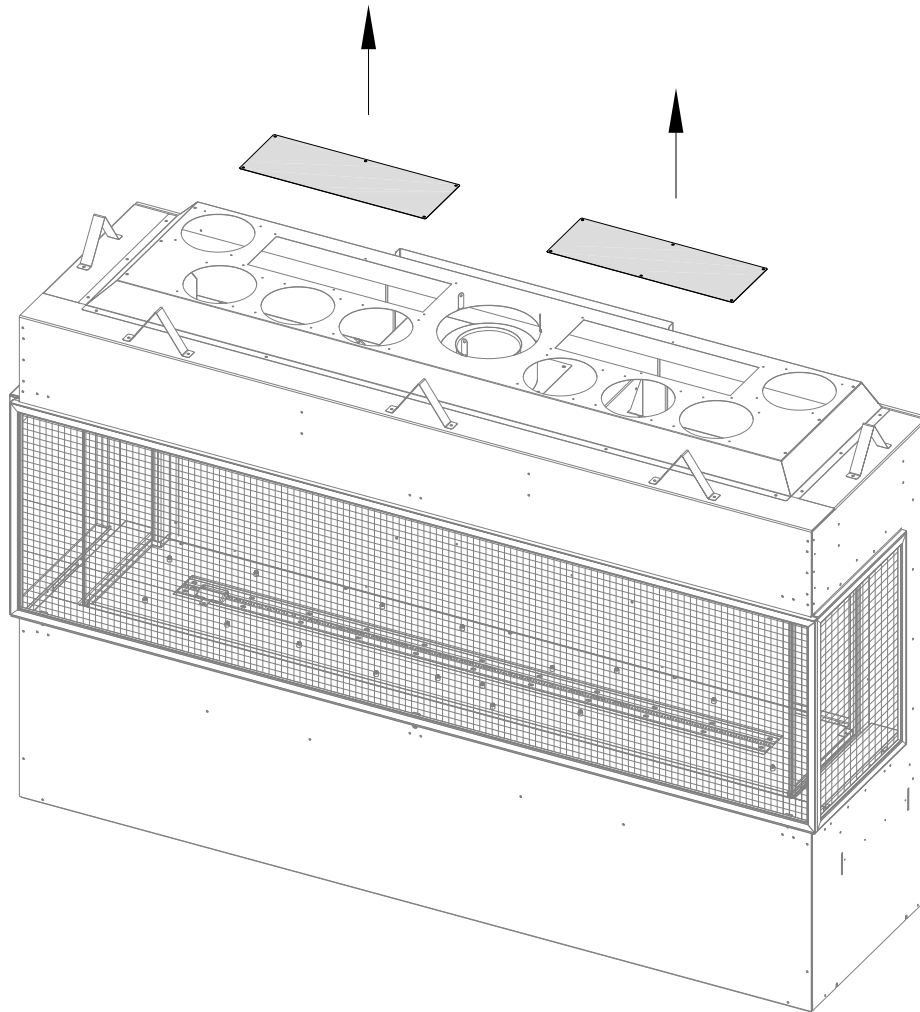

Figure 3.15 - Vented Cavity Cover Plate Removal
1. Remove the (2) rectangle cover plates located on the top of the fireplace as shown in Figure 3.15. Discard the (2) plates.